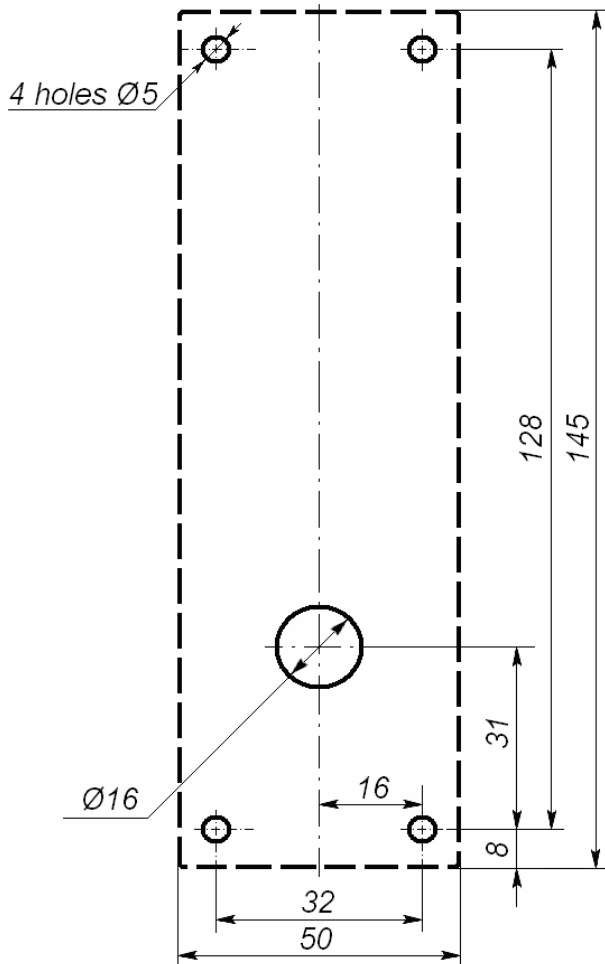

Figure 3. *IR-03.1* reader installation layout (reader housing is dotted)
2. Make the marking and holes in mounting surface for fixing the base-plate and cable laying from the reader (Ref. Fig. 3).